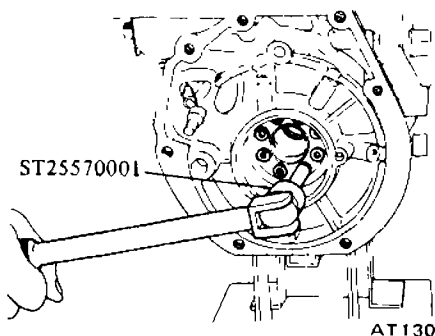

Fig. AT-64 Removing hex-head slotted bolt
- 18 Reaching through back side of transmission case, remove hex-head slotted bolts as shown in Figure AT-64. To do this, use Hex-head Extension ST25570001 (ST25570000). One-way clutch inner race, thrust washer, piston return spring and thrust spring ring can now be removed.